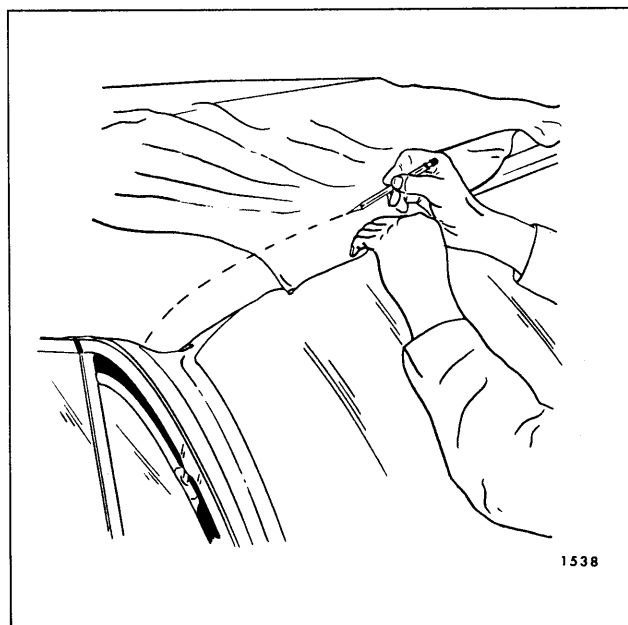

Fig. 13-39—Marking Top Material At Front Roof Rail
28. At front roof rail, pull top trim material forward to desired tension. While maintaining tension on top trim, place a pencil mark on outer surface of trim material along forward edge of front roof rail (Fig. 13-39).